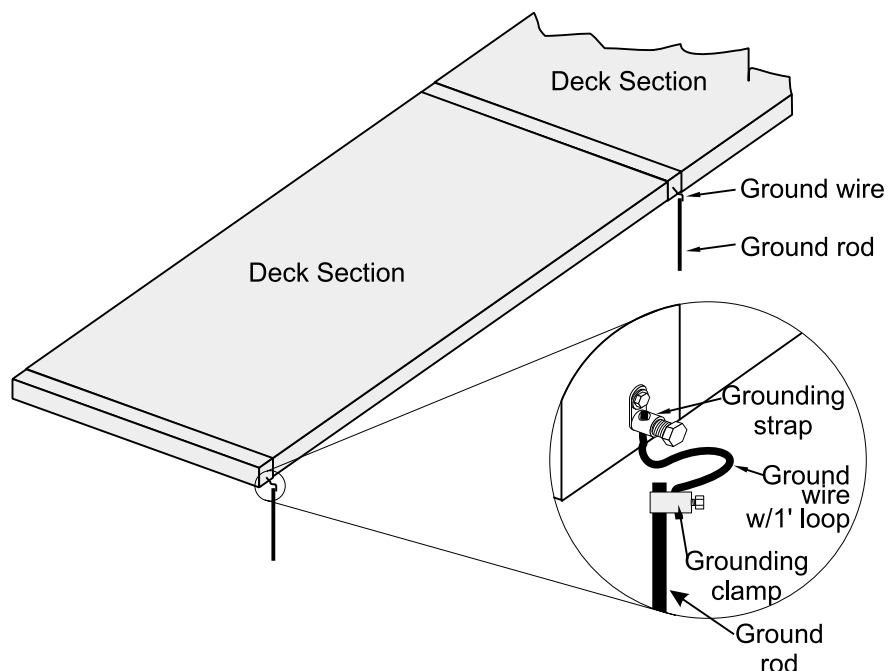

Figure 7
18. Install the ground straps using the hardware provided. Refer to Figure 7. One ground strap must be installed and connected to each section of the scale system. If the scale is installed in a pit, the ground strap must be installed towards the inside rather than towards the outside of the scale. This is required because the ground rod is installed inside the pit rather than beside the foundation. The ground rod should be an eight foot long, 5/8" dia. copper or zinc clad rod. It must be driven down to the water table. If eight feet is not enough, use a longer rod.